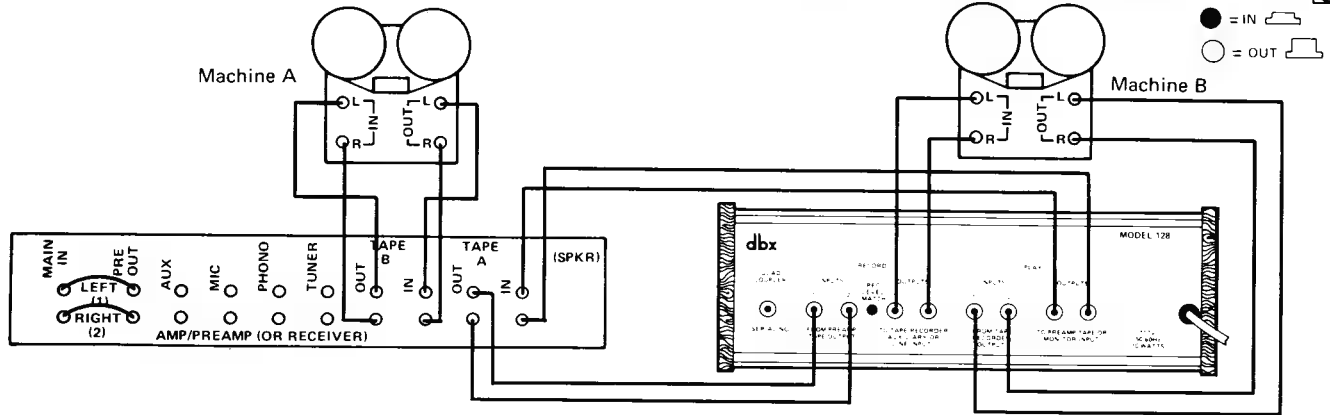

Fig. 10 – Copying dbx-Encoded and Non-Encoded Tapes with a Preamp having Two Tape Monitor Loops.
1. If your preamp (or receiver) has two tape monitor loops with switching for "Dub A to B" or similar copying provisions, connect your system as shown in Figure 10.
2. If your preamplifier, amplifier or receiver has two tape monitor loops with switching for "Dub A to B" or similar copying provisions, connect your system as shown in Figure 10.